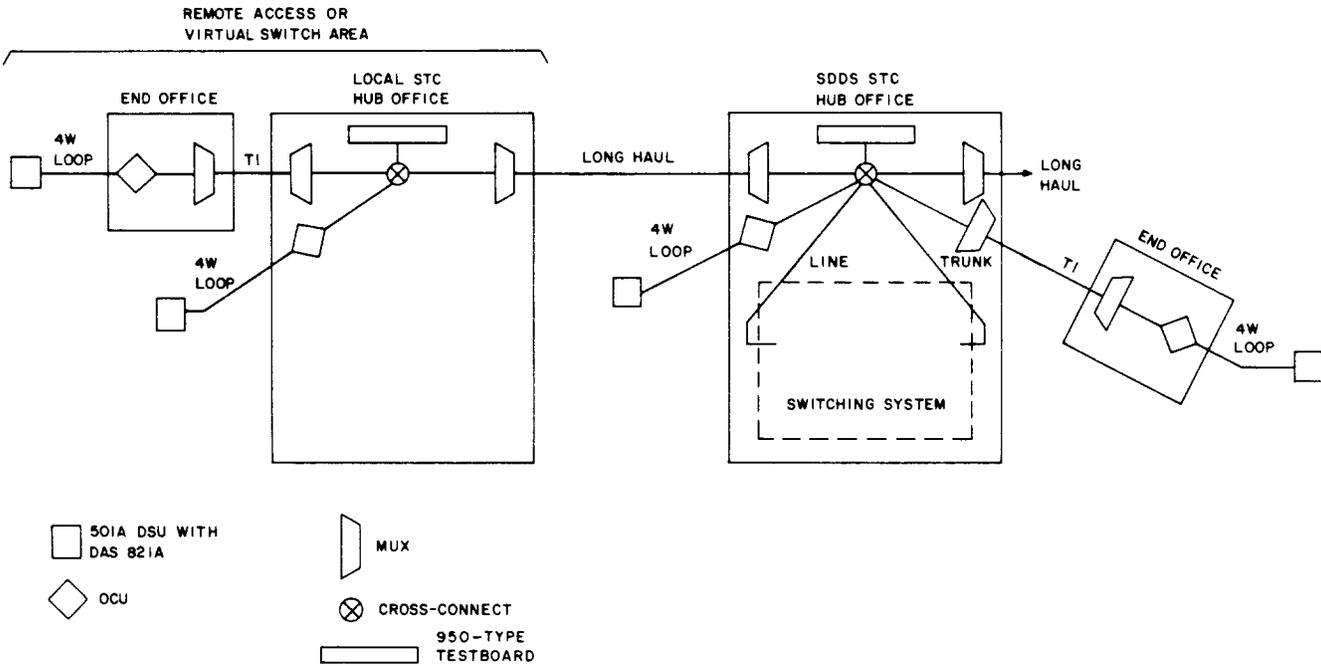

Fig. 1—SDDS Circuit Arrangement
2.01 A customer circuit may involve either one or two STCs as shown in Fig. 1. If the circuit involves two STCs, the switched digital data system (SDDS) hub office STC, that is the STC at the switch location, is the control STC and will provide overall coordination of the turn-up procedures. The control STC has specific responsibility for turn-up of the inter-STC facilities. The second STC (local) coordinates turn-up of the circuit to the customer station. If a customer circuit involves only the STC at the switch location, then that STC is the control STC and it coordinates all turn-up procedures.